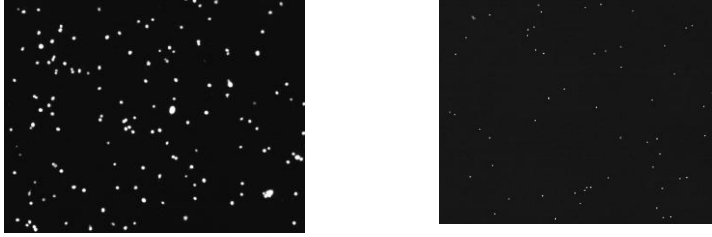

Figure 3: Example of post-bind AO/DAPI stained HEK cells (left) and PBMCs (right).
The figure below provides an overview of the fixation workflow. Between 10,000 and 100,000 cells can be fixed in a single reaction. After fixation, cells can either be stored at -80°C or immediately proceed with capture and barcoding (Figure 3).
- After fixation, the cells are permeabilized and should appear dead with viability stains. We recommend Trypan Blue for all counting up until the bead binding step. After the beads are bound, we recommend using fluorescent staining such as Acridine Orange/Propidium Iodide (AO/PI) or Acridine Orange/DAPI (AO/DAPI) (Figure 3).